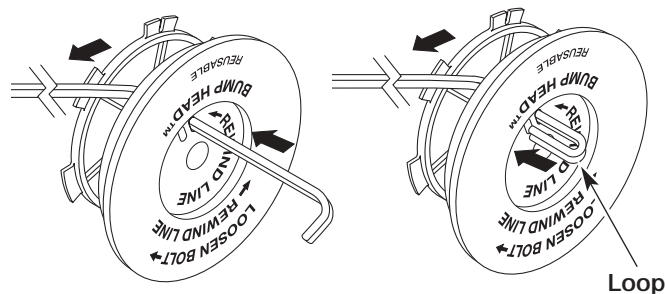

Figure 33
8. Cut approximately 12 feet (3.65 m) of new trimming line. Insert one end of the line through one of the two holes in the inner reel. Pull the line through the inner reel until only about 4 inches is left out. See Figure 33.
9. Insert the end of the line into the open hole in the inner reel and pull the line tight to make the loop as small as possible. See Figure 33.